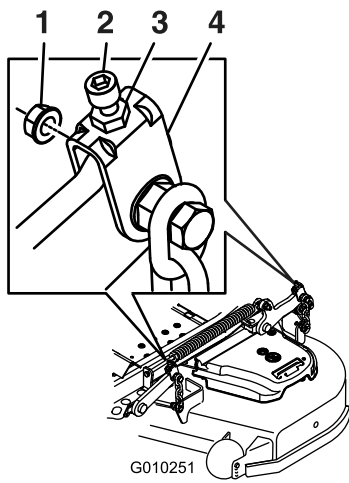
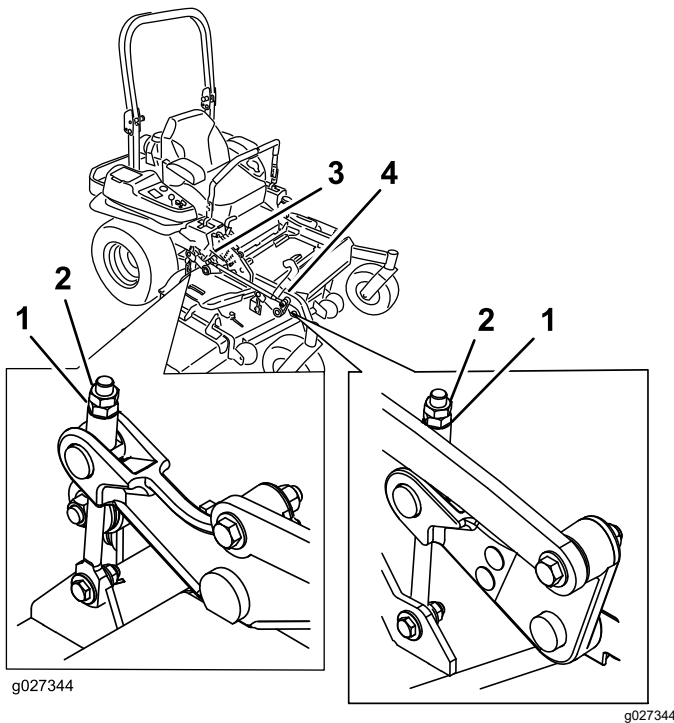

Figure 116
Figure 117
- Fine-tune the adjustment nut on the front deck-lift assembly by turning it (Figure 116 or Figure 117).
16. Fine tune the screw adjuster by turning it to get 8.3 mm (3-1/4 inches) height (Figure 117).